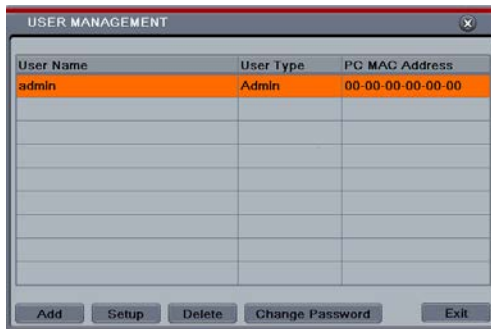

Fig 5-27 User Management Configuration
Step 1: Enter into Menu→Setup→Users. Refer to Fig 5-27: